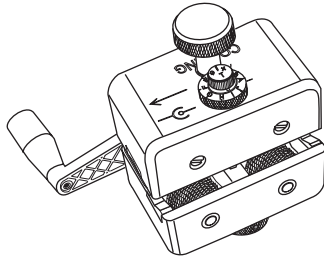

Figure 1
1.1 The Corning Optical Communications Universal Access Tool 3 (UAT3) is designed to access individual fibers or ribbons in single tube cables in a mid-span location (Figure 1). The tool, Corning part number UAT3-000, is designed to access fibers in buffer tubes from 5 to 24 mm in outer diameter (OD).